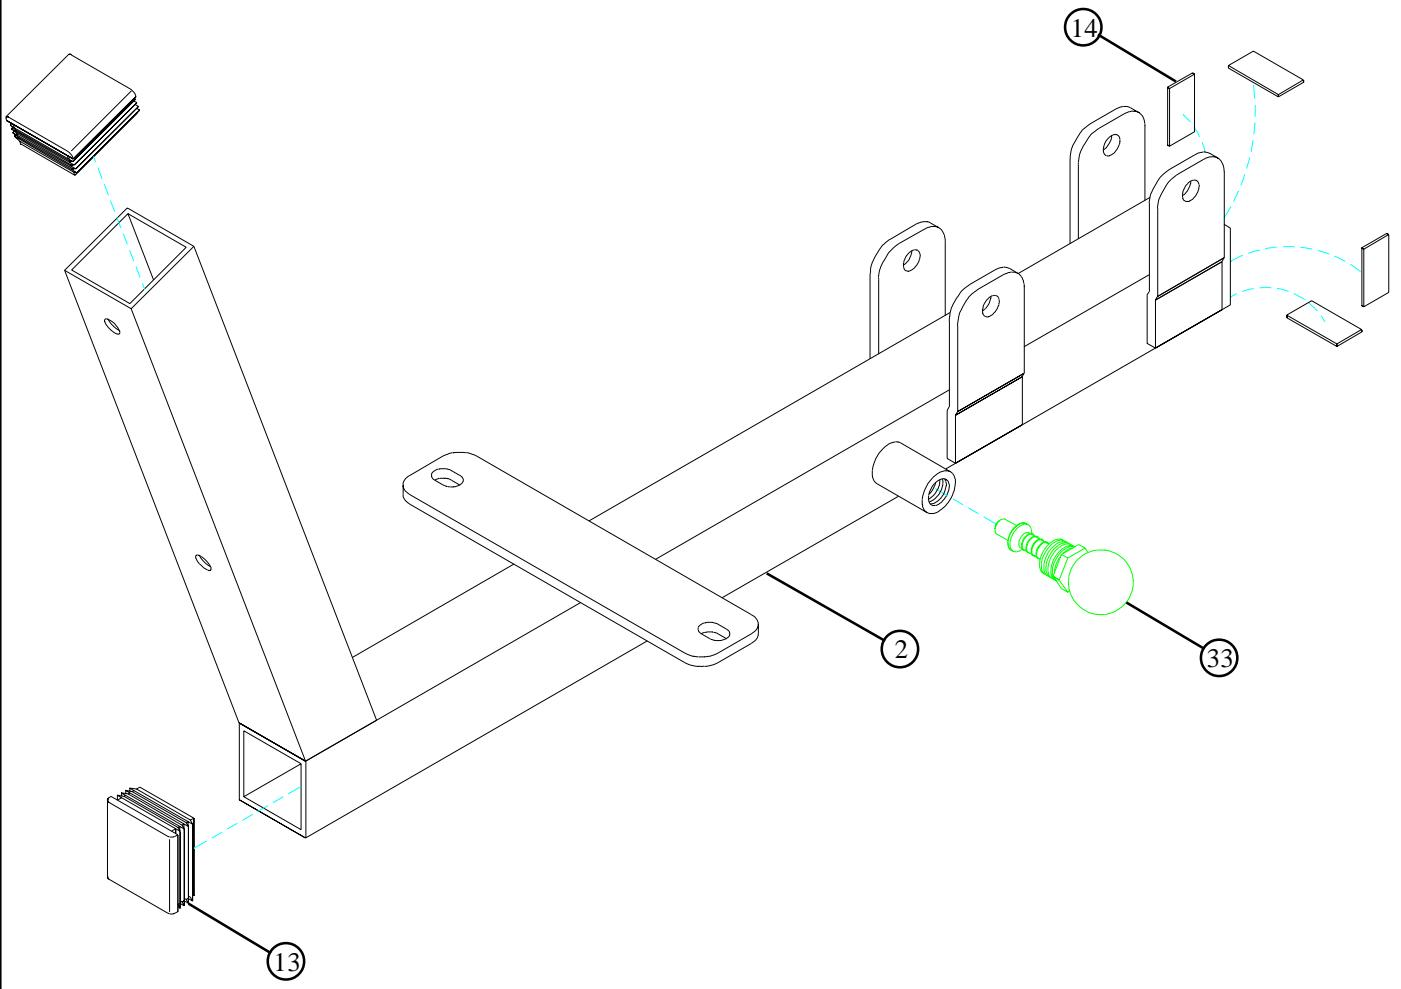

FIGURE 2
- Insert two 2" SQ. ENDCAPS (13) into the ends of the SEAT FRAME (2) as shown in FIGURE 2.
- **SECURELY** assemble one 3/8" SPRING PIN (33) to the spring pin barrel on the SEAT FRAME (2) as shown in FIGURE 2.
- Attach four PARAGLIDE STRIPS (14) to the *inside* of the SEAT FRAME (2) using the following steps:
- Thoroughly clean all surfaces where the PARAGLIDE STRIPS (14) are to be attached.
- Remove the PARAGLIDE STRIPS (14) from the paper backing and firmly apply them to all shown surfaces.